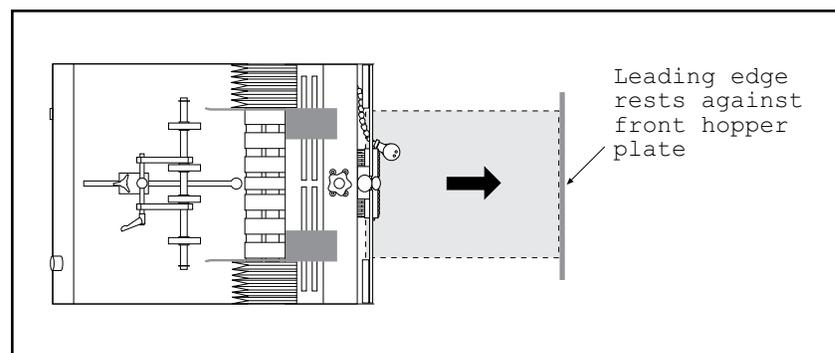

Figure 3-7. Moving the First Sheet Into Position
2. Use your finger or thumb on the drive belt or one of the feed rollers to manually move the bottom sheet of material through the gate assembly area and under hold-down springs. Continue until material leading edge is in-line with front hopper plate, then stop (Figure 3-7).